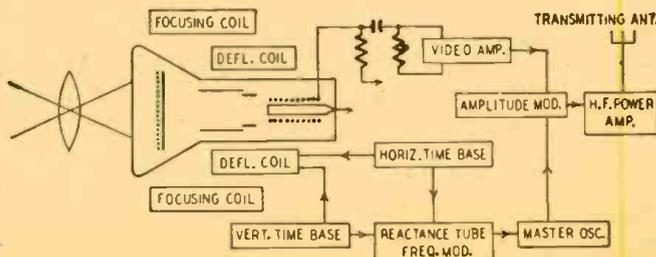

Fig. 2—A block diagram of the proposed transmitting system.
The transmitter is represented schematically in Fig. 2. The image is analyzed by an orthicon camera (for example). Sweep is determined by the saw-tooth voltages supplied by the 2 time bases: the high-frequency horizontal base affecting the analysis of the lines; and the vertical base, of a much lower relative frequency, assuring the succession of lines and the passage from one image to the next.
**T**HE chief complaint among new television-set owners is the presence of one or more overlapping images on the picture screen, resulting in a consistent double exposure (Fig. 1) or triple-exposure (Fig. 2) effect. Since the displaced images duplicate the main picture image in every respect, and usually with less intensity,